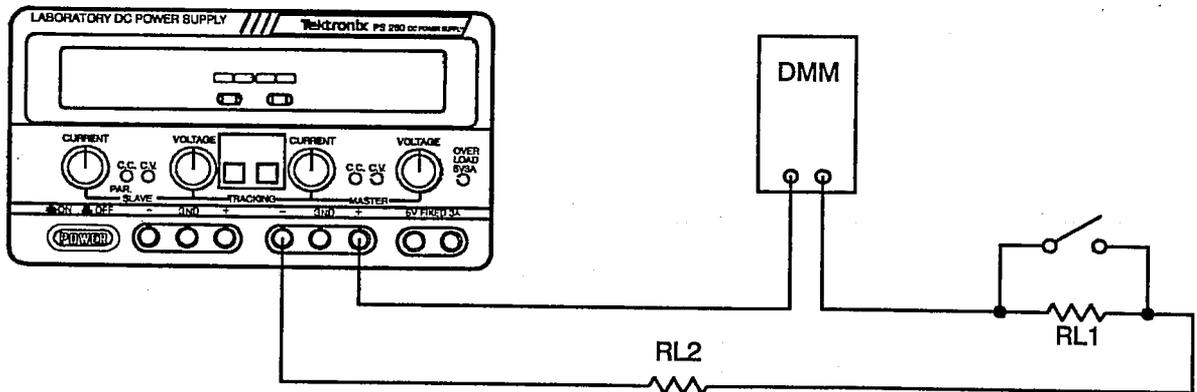

Figure 4-1: Constant Current Test Setup
- Connect the multimeter, load resistors, and test switch to the + and - terminals of the Master output as indicated in Figure 4-1. See Table 4-2 for the appropriate values of the load resistors.
- Connect the multimeter, load resistors, and test switch to the + and - terminals of the Slave output as indicated in Figure 4-1. See Table 4-2 for the appropriate values of the load resistors.